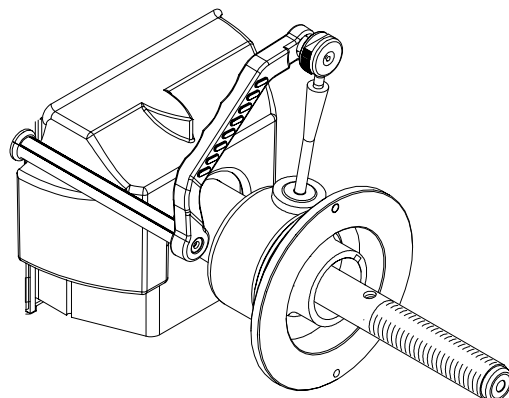

Figure 44 - Touch end of Calibration Weight resting on Bell Collar
10. Locate the Calibration Weight. Place the calibration weight with the large end oriented on the bell collar. Extend the SAPE arm outward and rotate the extension to just touch the end of the calibration weight as shown in Figure 44. A tone will sound and the display will change to “**H**” “**POS**”. Return the SAPE arm to the home position.